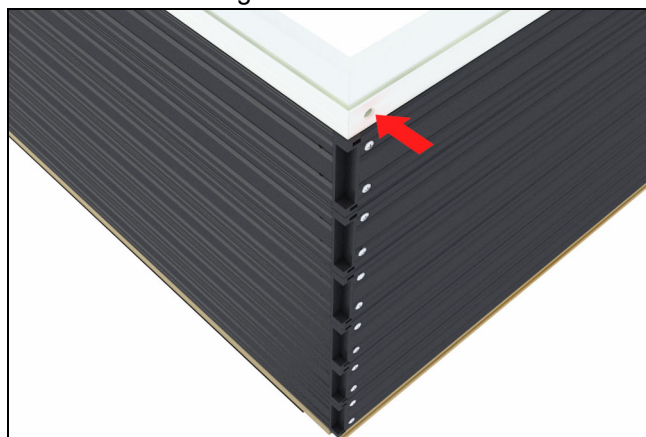

Figure 54
4. Do not install screw into frame cladding miter at this time. See figure 54.